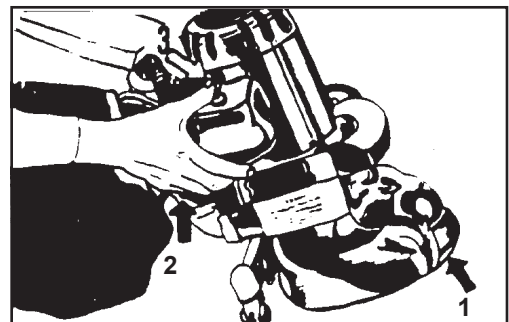

Figure 7
5. Tilt the machine back so that the sandpaper disc does not touch the floor See (1) in Figure 7. Hold both handles. See (2) in Figure 7.
6. Put the On/Off switch in the "ON" position. See (3) in Figure 7.